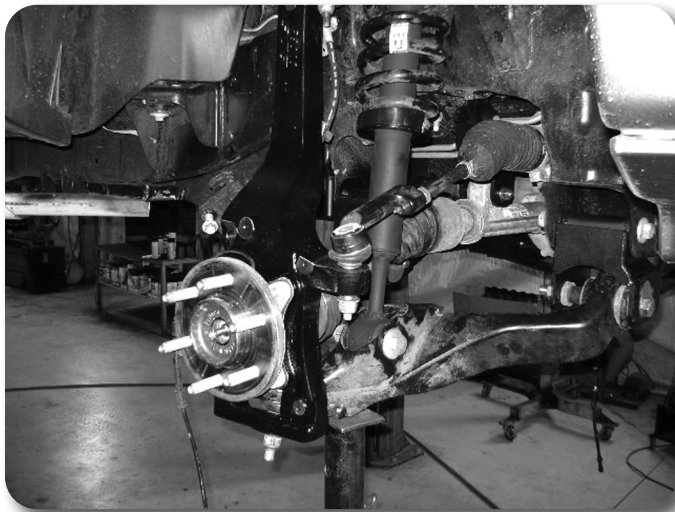

Figure 17A
42. Attach the ABS line to the connector at the inner fender if disconnected. Route the lines similar to the factory setup down to the side of the knuckle. Attach the brake line with a new 8mm x 18mm bolt with 5/16" washer to the side of the knuckle, the brake line locating tab will go into the un-threaded hole **Figure 17A / B**. Use the provided "oval fir tree" cable ties as needed along with regular cable ties to hold the ABS lines out of the way of the tire and sway bar.